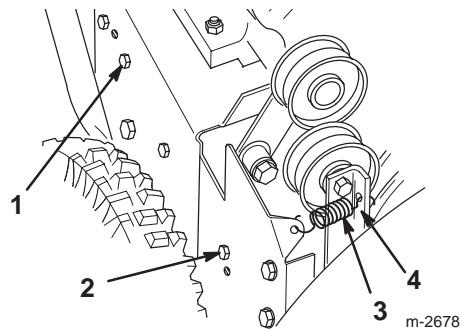

Figure 25
1. Upper belt cover 2. Bolt (3)
4. Loosen the auger brake arm assembly by loosening the rearmost screw and removing the front screw (Fig. 25).
5. Remove the idler pulley spring (Fig. 25). Let the brake arm assembly hang free but out of the way.
4. Loosen the auger brake arm assembly by loosening the rear screw and removing the front screw that fasten the auger brake arm assembly to the frame (Fig. 25).
5. Remove the idler pulley spring (Fig. 25). Let the brake arm assembly to hang free but out of the way.